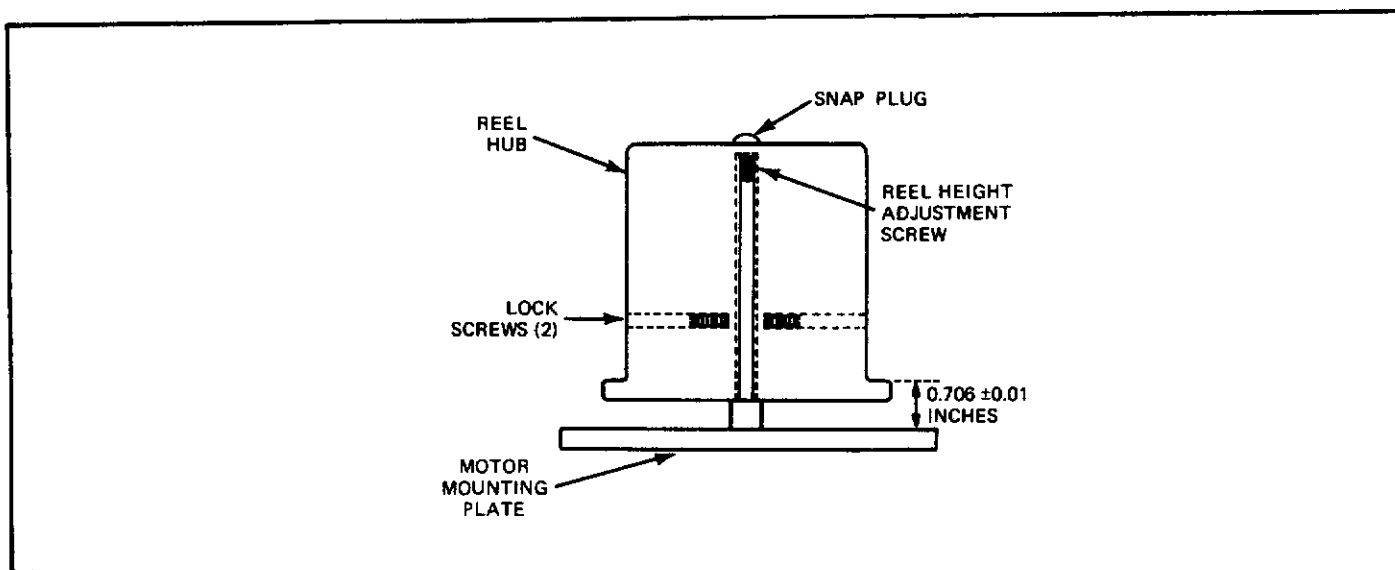

Figure 4-5. Reel Height Adjustment
1. Check the distance between the reel hub flange and the top of the motor mounting plate, see figure 4-5.